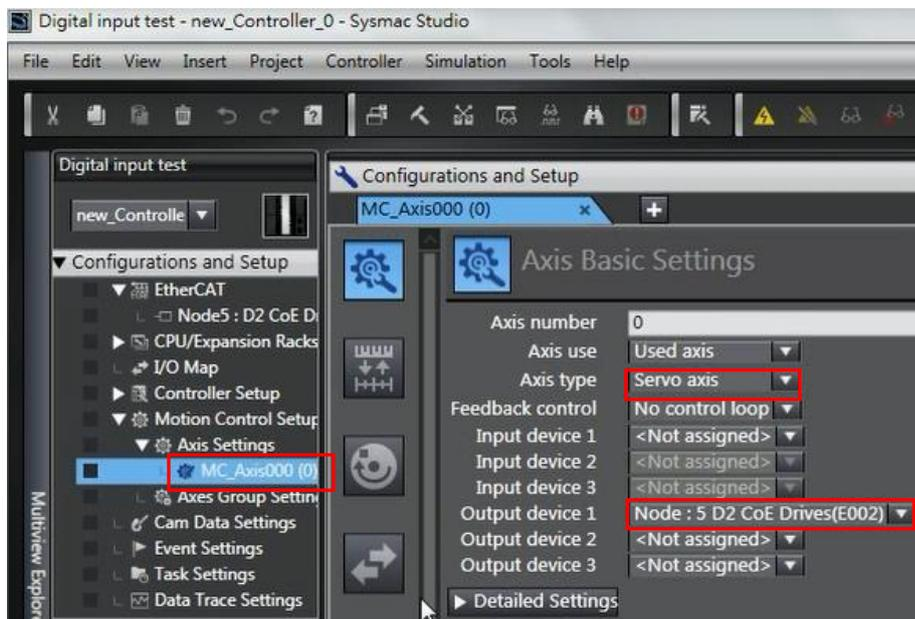

Fig. 5-45
- b. Click the icon of “Axis Basic Settings” (gear icon) in “MC_Axis000 (0)” tab to open the “Axis Basic Settings” page. Set “Axis type” to be “Servo axis” and “Output device 1” to be drive linked to this axis. In the example of Fig. 5-45, it is “Node : 5 D2 CoE Drives (E002)”.